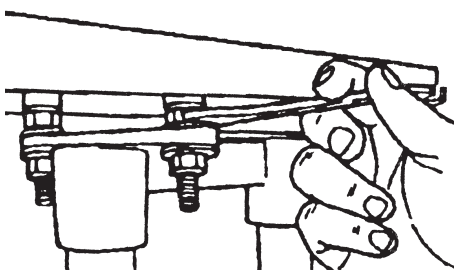

Figure 92
7. As needed, adjust the Top Nuts located on the infeed side of the Extension Table, in order for the Straightedge to be level across both the Worktable and the Extension Table infeed sides. See Figure 92.